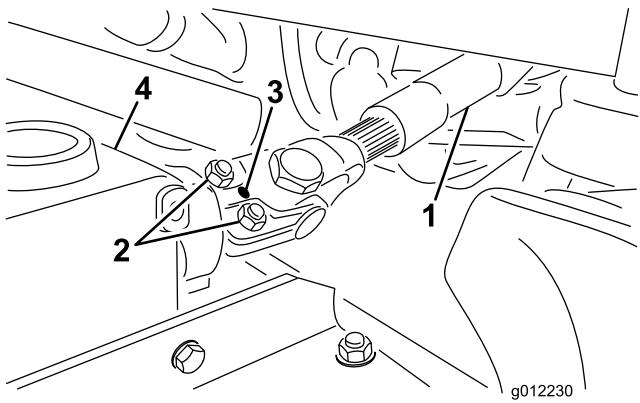

Figure 4
- Remove the roll pin from the end yoke and the gearbox shaft (Figure 4).
- Secure the end yoke of the PTO drive shaft to the gearbox shaft with the roll pin (Figure 4).
- Tighten the locknuts to secure the end yoke to the gearbox shaft (Figure 4). Torque the locknuts to 175 to 225 in-lb (20 to 25 N-m)